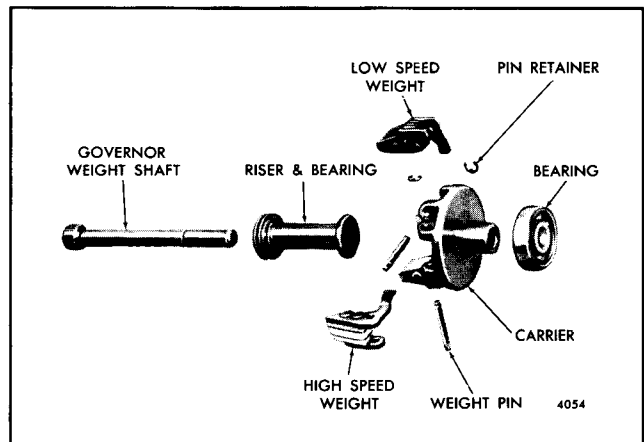

Fig. 10 - Governor Weight Details and Relative Location of Parts
1. Remove the retaining rings from the governor weight pins (Fig. 10). Then, drive the pins out by tapping on a punch held against the grooved end of the pins. Remove the governor weights.